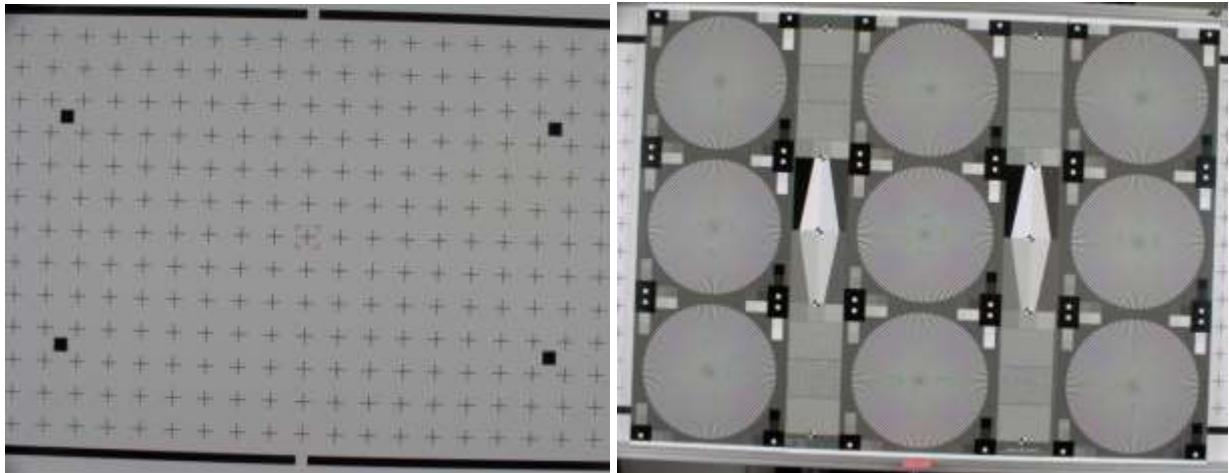

Figure 29. Examples of Images with Counter-clockwise Camera Rotation
31. If the image on the monitor appears to be lower on the right side than on the left side, but otherwise the image does not appear to shrink on the right or left side (Figure 29), adjusting the Tripod Angle Rotation (bottom knob) so the camera rotates clockwise as viewed from the back of the camera will “square-up” the image.